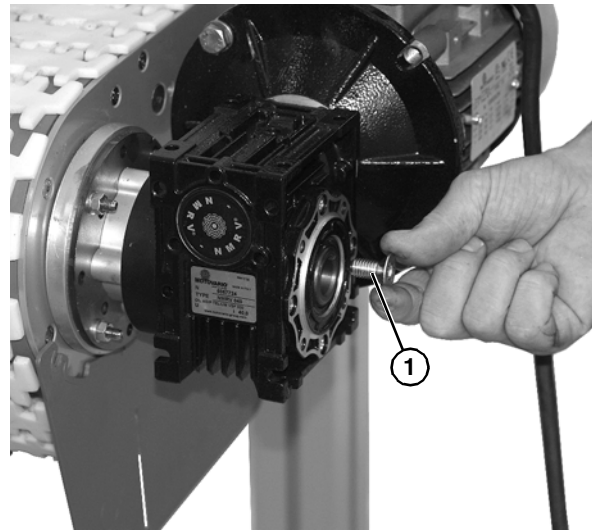

Figure 40
4. Install and tighten flat head screw (Figure 40, item 1) onto the drive shaft.